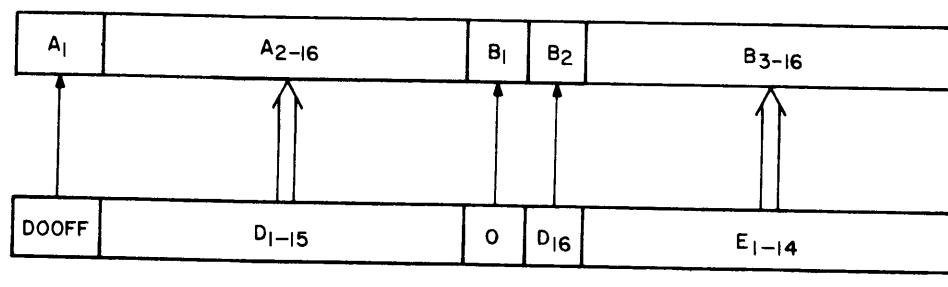

Figure 5. Forming the Product, MADFF Reset
Assume that the contents of the shift register are now equal to octal 77. This causes the sign of the remainder to be stored in the A00FF and the B-register to be shifted left. The B-register, but not the A-register, is shifted to fill the previously ignored bit 1 position of the B-register. Next, the remainder is examined (REMOK). Either of two conditions leads to the setting of the MADFF. They are  $(D) = 0$ , or  $(D)_1 = (AZ) = 0$ . Figure 5 illustrates the possible combinations of remainder and dividend and the action required, if any, to terminate in a proper divide.